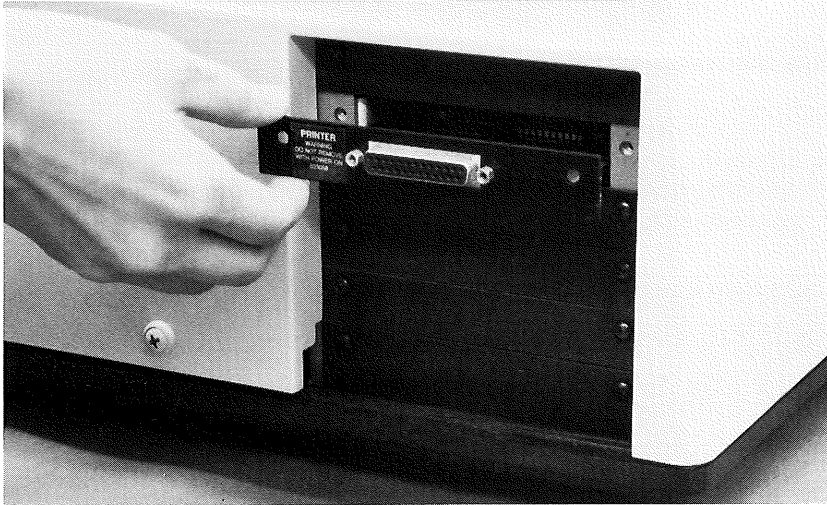

Figure 5.
12. Slide the printer board into the open position. Push to seat. Secure the board with the two screws removed in step 11. See Figure 5.